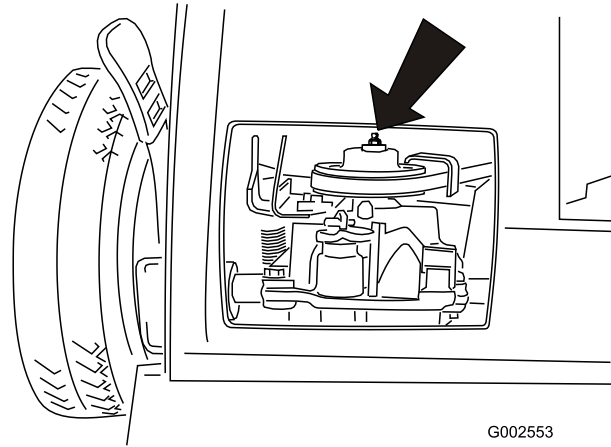

Figure 22
2. Install a grease gun onto the fitting through the belt cover opening (Figure 22).